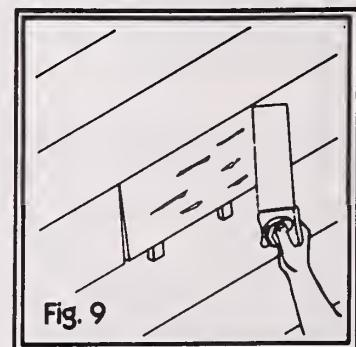

Fig. 9
2. Using the saw, cut out the damaged portion of the siding (fig. 9). Make the cut carefully. Don't damage siding boards above or below. Splinter the damaged portion into smaller pieces, using the hammer and chisel.